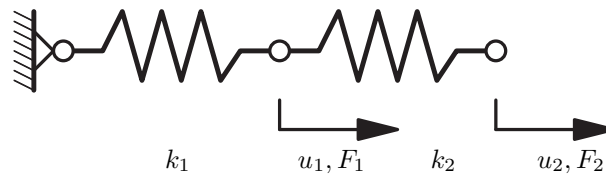

Figure 2: 2 variable system
- (a) Derive the expression for the total potential energy of the system constructed from 2 springs shown in Figure 2. The stiffness of the springs are  $k_1$  and  $k_2$ , the displacement and load at the two nodes are  $u_1, F_1, u_2, F_2$ . Write down the expression for  $\mathbf{K}$  for this system.